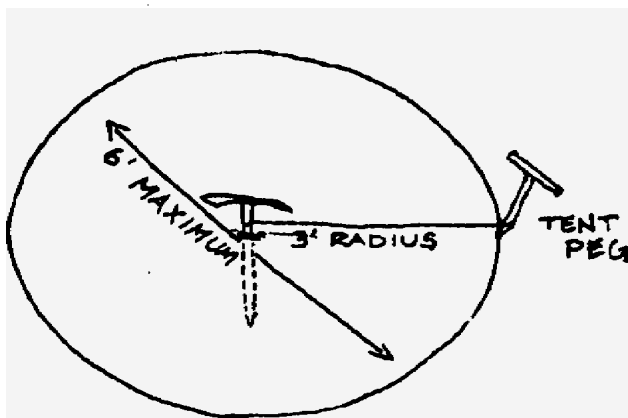

Figure 11-9: Circle mark for quarry site.
2. Scribe a circle in the snow near the quarry site. (See figure 11-9).